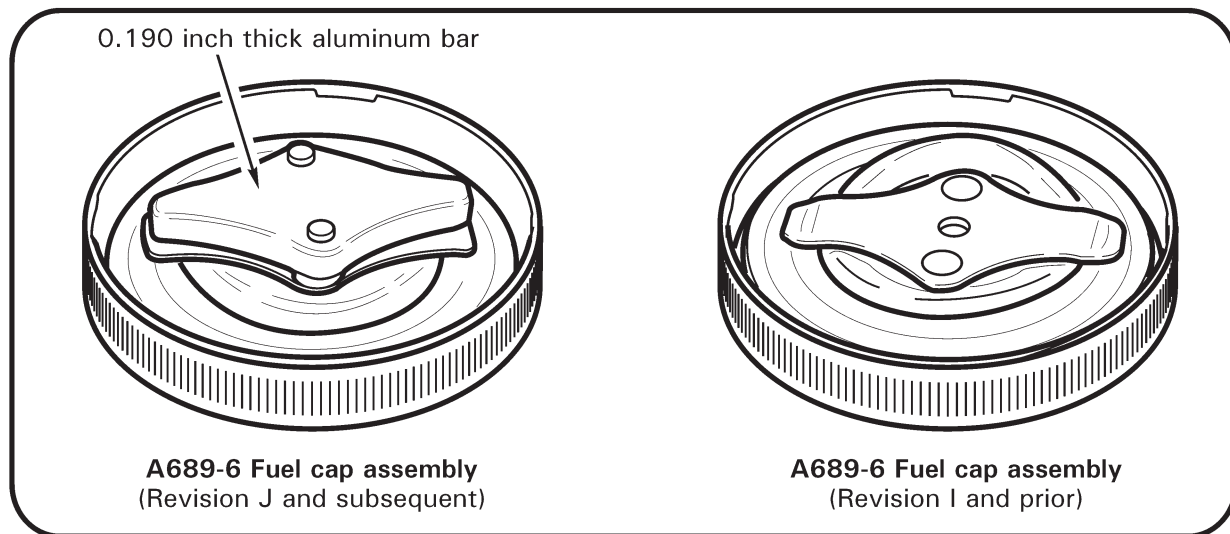

FIGURE 12-3A A689-6 FUEL CAP REVISIONS
1. Remove A689-6 fuel cap and verify cap is revision J or subsequent per Figure 12-3A.